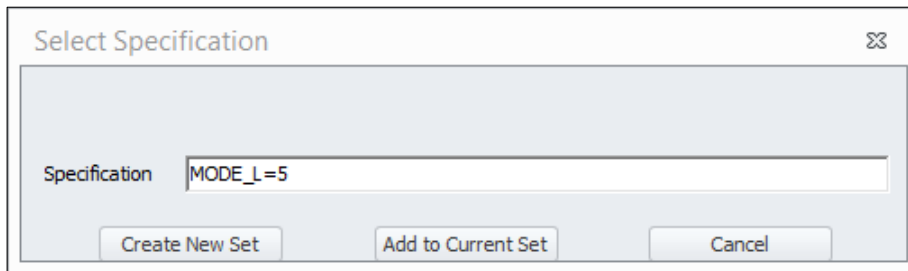

Figure 68 The Select Specification window.
- 2) In the Select Specification window, right click in the blank field to see the attribute list (note: it only shows attributes from the active layer – to access other attributes, select another layer in the TOC), select the attribute for applying the condition (in the example in Figure 68, select all the links on mode 5 – air).